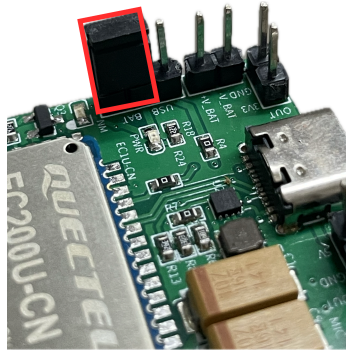

Fig 2
*Please note that when a pre-charged battery is connected between +V_BAT and -V_BAT, the position of the jumper on the board should be connected between BAT (square pad) to power ON the device as shown in Fig 2.